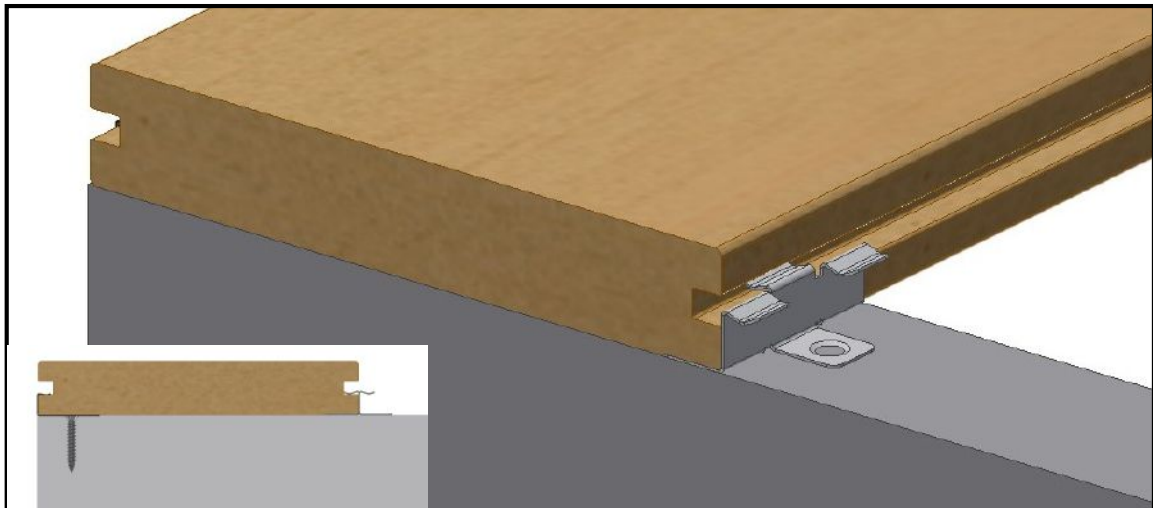

Figure 7
1. As shown in the Figure 7, put the steel clips in place.